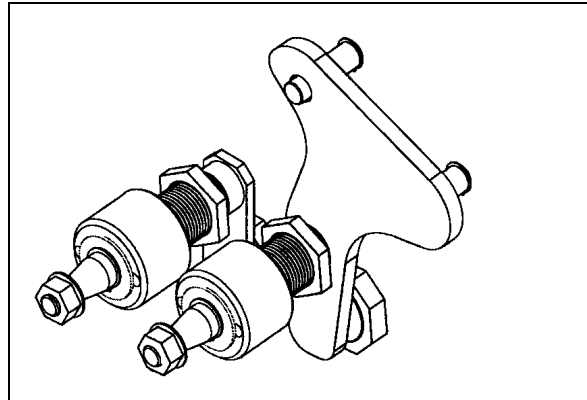

FIGURE 40: DRIVING MECHANISM (MOTOR SIDE) 23285
1. Reinstall the wiper arms and position as shown in figure 40. Before positioning the wipers at their final position, tighten the nuts at first.